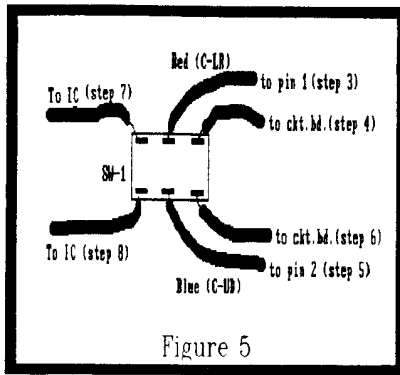

Figure 5
4. Solder a 2 to 3 inch length of insulated wire to the same hole in the circuit board from which you removed the red wire in step 3 above. Solder the other end of the wire to one of the end terminals on the mini slide switch on the same side that the red wire is connected to. (See figure 5)
6. Solder another 2 to 3 inch length of insulated wire to the same hole in the circuit board from which you removed the blue wire in step 5 above. Solder the other end of the wire to the vacant end terminal on the mini slide switch next to the other wire in step 4 above. (See figure 5)
7. Using an ohm meter or continuity checker, find the pin on the integrated circuit (IC) that is connected to pin 1 on the joystick socket mounted on the circuit board. Solder a 2 to 3 inch length of insulated wire to the identified pin on the IC, then solder the other end of the wire to the remaining end terminal on the mini slide switch on the same side as the red wire referred to in step 2 above. (See figure 5)
switch on the same side as the blue wire referred to in step 3 above. (See figure 5)